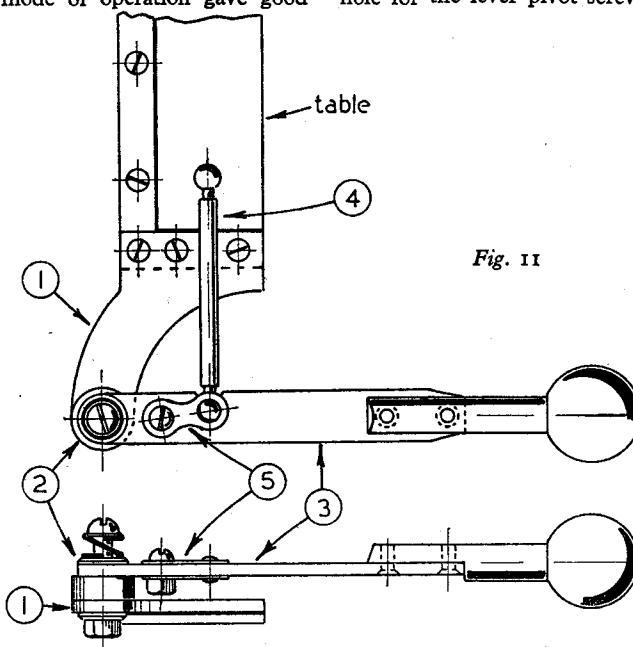
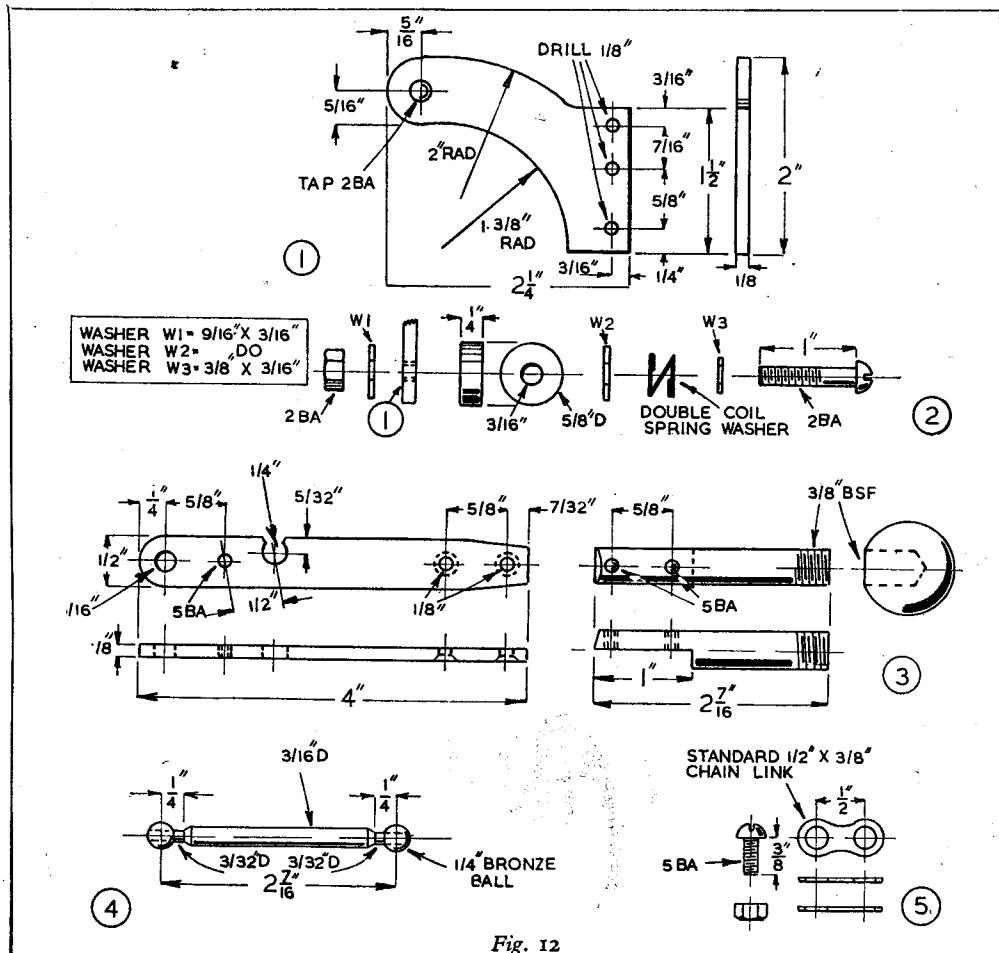

Fig. 11
Fig. 12
The general appearance of the fitting is shown in Fig. 11, and the dimensioned working drawings bearing corresponding reference numbers are given in Fig. 12.
The frictional control of the lever is provided for by a double-coil spring-washer compressed between two $\frac{1}{16}$ in. plain washers. A distance collar is fitted between the bracket and the lever to maintain the correct centre height in relation to the tool carrier, and thus allow the connecting-rod to lie horizontally. The dimensions of the parts forming the lever pivot assembly are shown in Fig. 12 (2).